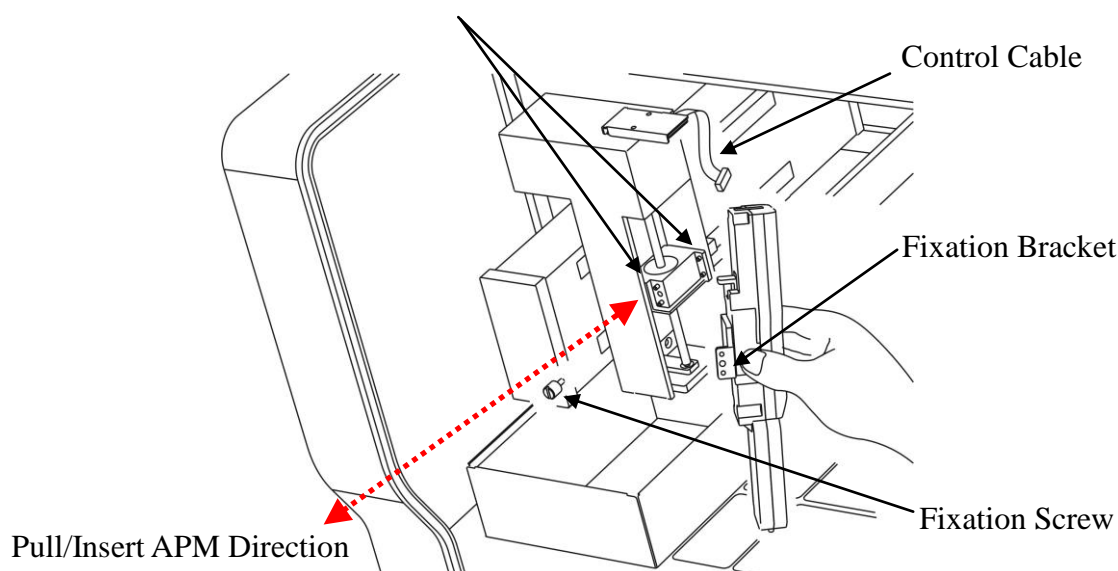

Figure 9. APM Installation and Removal
2. Unscrew the APM Fixation Screw (Please see Figure 9).